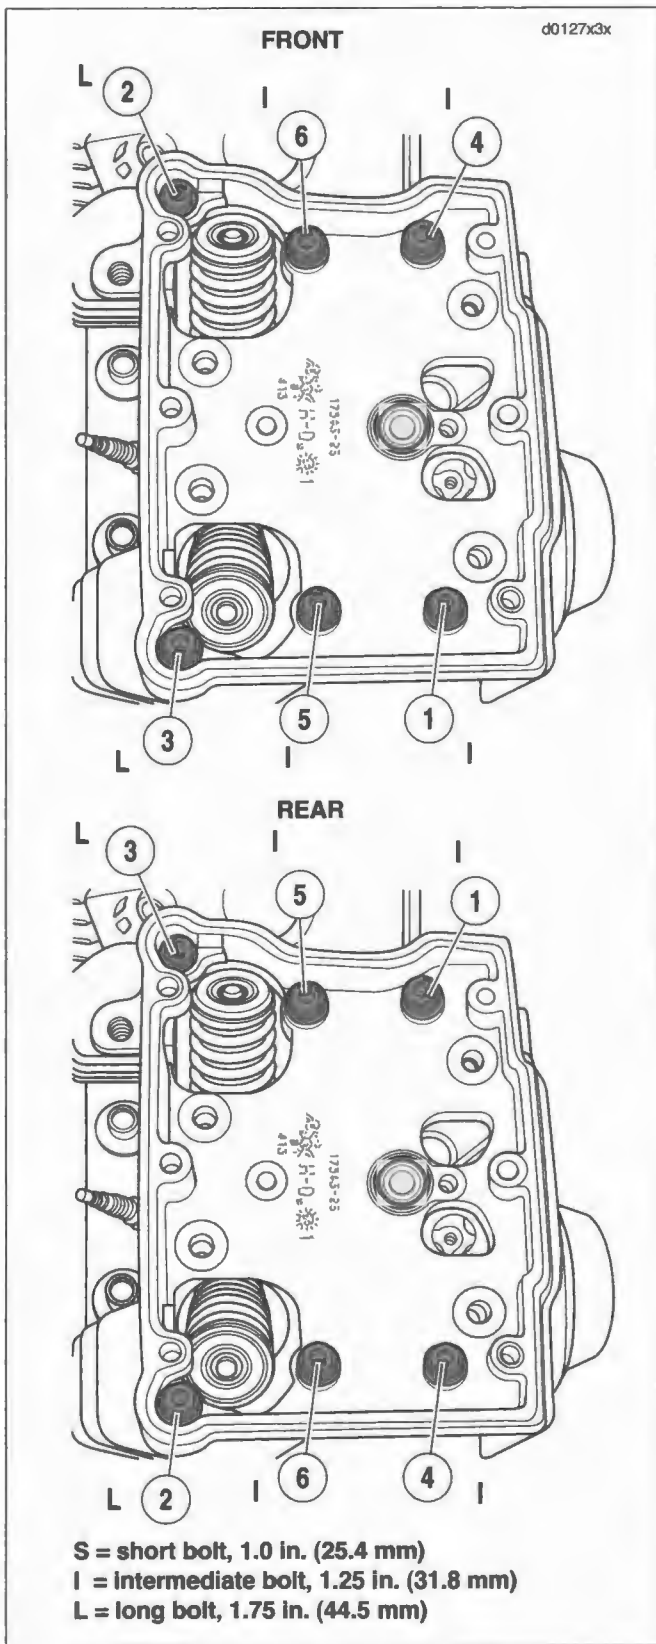

Figure 3-41. Rocker Housing Torque Sequence and Bolt Size (Rear Cylinder Shown)
8. See Figure 3-41. Apply a small dab of LOCTITE THREADLOCKER 243 (blue) to threads of six rocker housing bolts. Loosely install the rocker housing bolts. Place two long bolts on the left side of the engine and four intermediate bolts in the interior. Alternately tighten the bolts to 120-168 **in-lbs** (13.6-19.0 Nm) in the sequence shown.